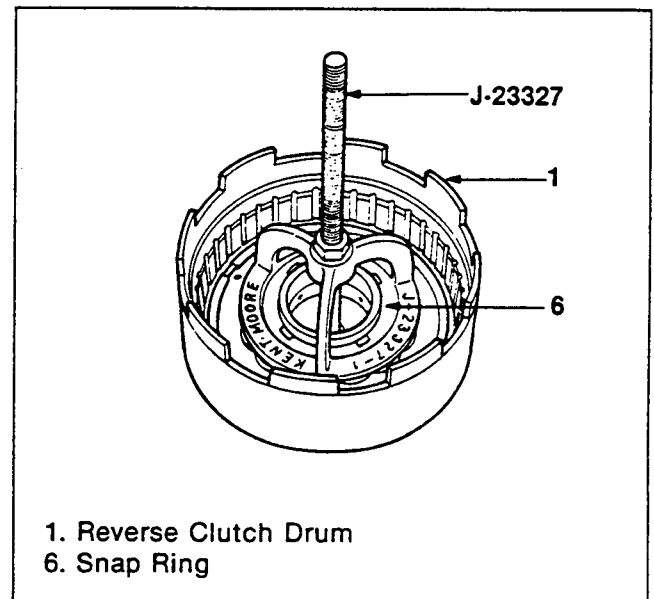

Figure 125. Return Spring Installation (2)
2. While compressing the return spring using special tool against spring retainer, install the snap ring with snap ring plier (figure 125).